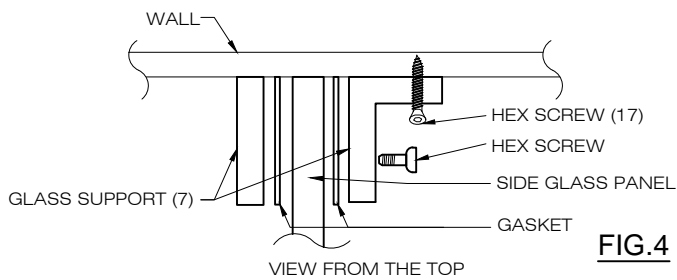

FIG.4
8. Repeat steps 1 through 7 for side glass panel (#4). [SEE FIG.4]